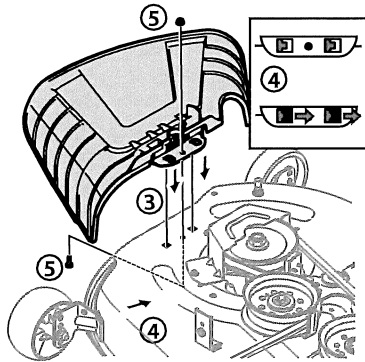

Figure 9
3. Place the chute deflector on the deck, be sure to insert the tabs on the chute deflector into the holes on the deck. See Figure 9.
4. Slide the chute deflector toward the rear of the tractor until the bolt hole in the chute deflector aligns with the hole in the deck. See Figure 9.
5. Secure the chute deflector in place with the flange lock nut and hex screw removed in step two. Tighten to 102-124 in.-lbs (11.5-14 N-m). See Figure 9. Skip ahead to "Setting Front Gauge Wheels."